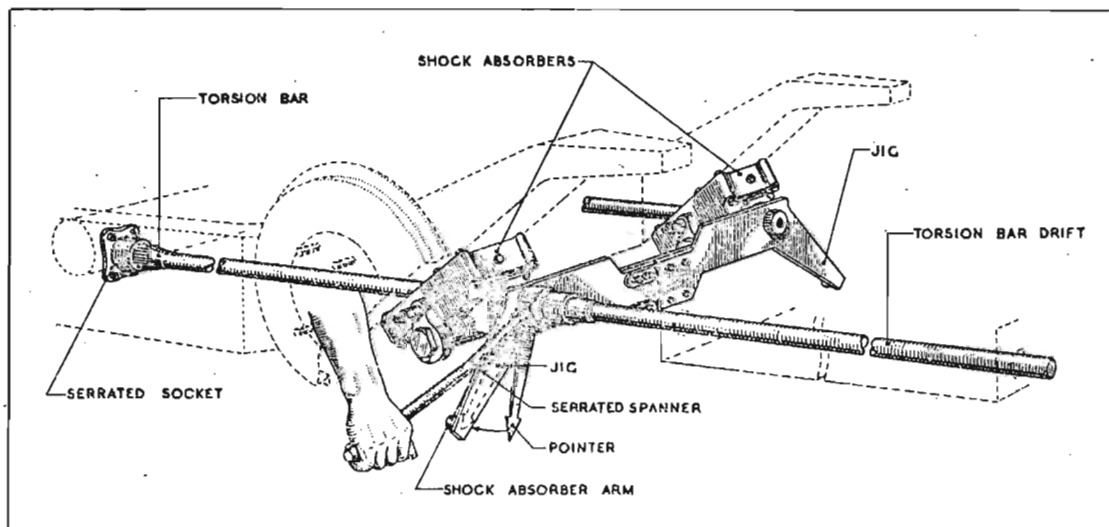

Fig. 2
15. Insert each torsion bar (small end first) through the hollow shaft of the shock absorber arm, sliding it forward until the serrated portions can be engaged with the serrated socket on the chassis and the serrations in the shock absorber arm, leaving the serrated end protruding sufficiently to allow the jig, T.F.N. 5019, to be fitted over the torsion bars, (see fig.2).
16. Adjust the centres of the two large holes in the jig to correspond exactly with those of the torsion bars, by slackening the four clamping bolts in the slotted portion at the centre of the jig, and sliding the halves as necessary to enable the jig to be passed easily over the projecting ends of the torsion bars. Tighten the clamping bolts when this condition is fulfilled, (see fig. 2).
25. Using the serrated spanner, T.F.N. 5000, twist each torsion bar, (see fig. 2) until its pointer registers zero on the jig. Holding this twist on the torsion bars, and using the drift, T.F.N. 5027, drive them forwards until the serrations on the rear ends are engaged with the serrations in the shock absorber arms.